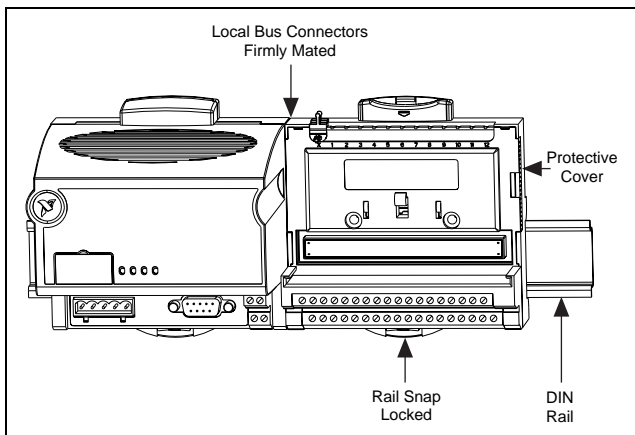

Figure 3. Installed Terminal Base
5. Remove the protective cover from the local bus connector, and place it over the local bus connector of the last terminal base in the stack. Figure 3 shows an installed terminal base.